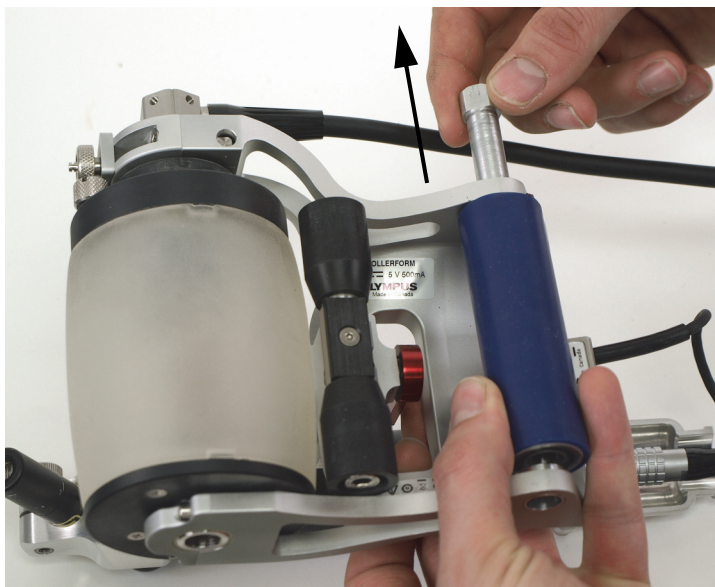

Figure 6-35 Sliding out the rear roller's axle
3. Slide the rear roller axle out of the RollerFORM frame (Figure 6-35 on page 114).